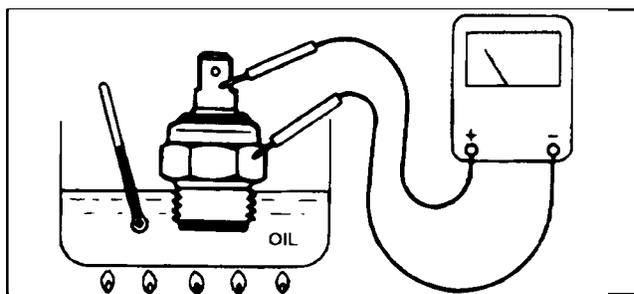

Figure 60
2. Put the switch in a container of oil with a thermometer and slowly heat the oil (Fig. 60).